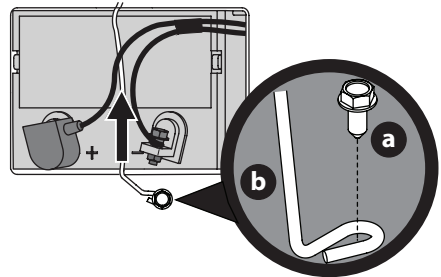

Figure 19
3. Remove the hex washer screw (a) securing the battery hold-down bracket (b) to the frame. Then flip the battery hold-down bracket (b) up to free the battery (Figure 19).